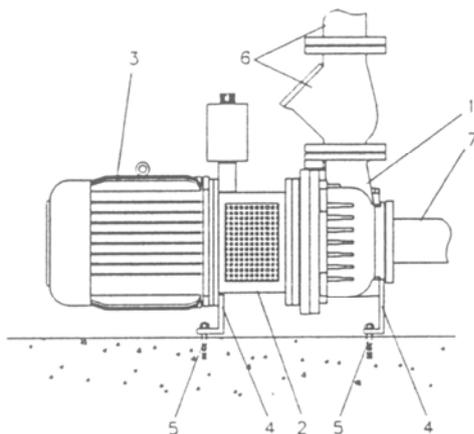

Fig. 7.5
See fig.7.5 or 7.6
- fixation of the base plate to the floor, see fig.7.5 and 7.6 pos. 5.